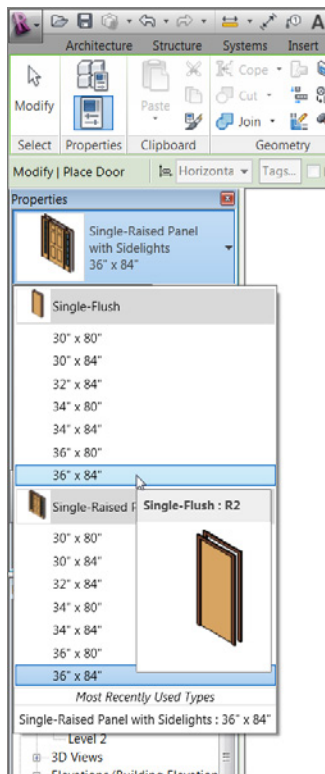

FIGURE 1.54: Each family .rfa file contains multiple types associated with that family.
7. In the Properties dialog, click the Type Selector, as shown in Figure 1.54. Notice that in addition to bringing in the raised panel door family, you also have seven different types of the door. These types are simply variations of the same door. You no longer have to explode a block and modify it to fit in your wall.
8. Select Single-Flush 36" × 84" (914mm × 2134mm), as shown in Figure 1.54.